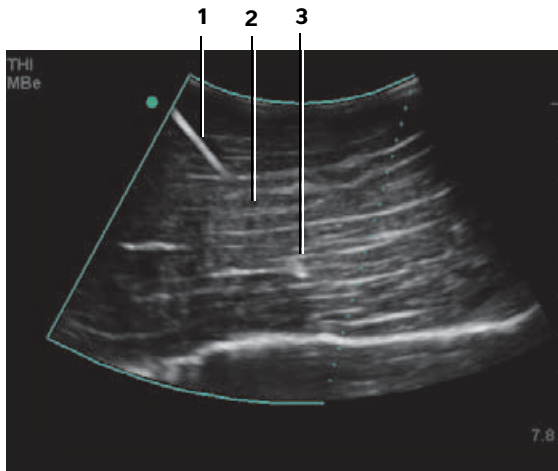

Figure 2 With a curved array transducer, only segments of the needle shaft may show:
- Note that the beam divergence of a curved array transducer may prevent a segment of the needle shaft from showing in the image. (See **Figure 2** on page 32.) The needle tip may not show.
For curved array transducers, MBe can help identify the direction of the needle, although only segments of the needle shaft may show in the image. (See **Figure 2** on page 32.) Use movement and fluid injection to help verify the needle-tip location.